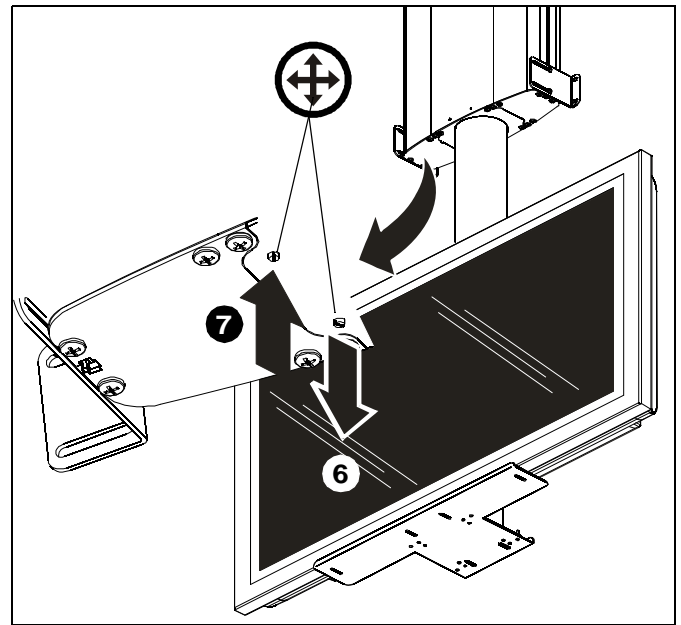
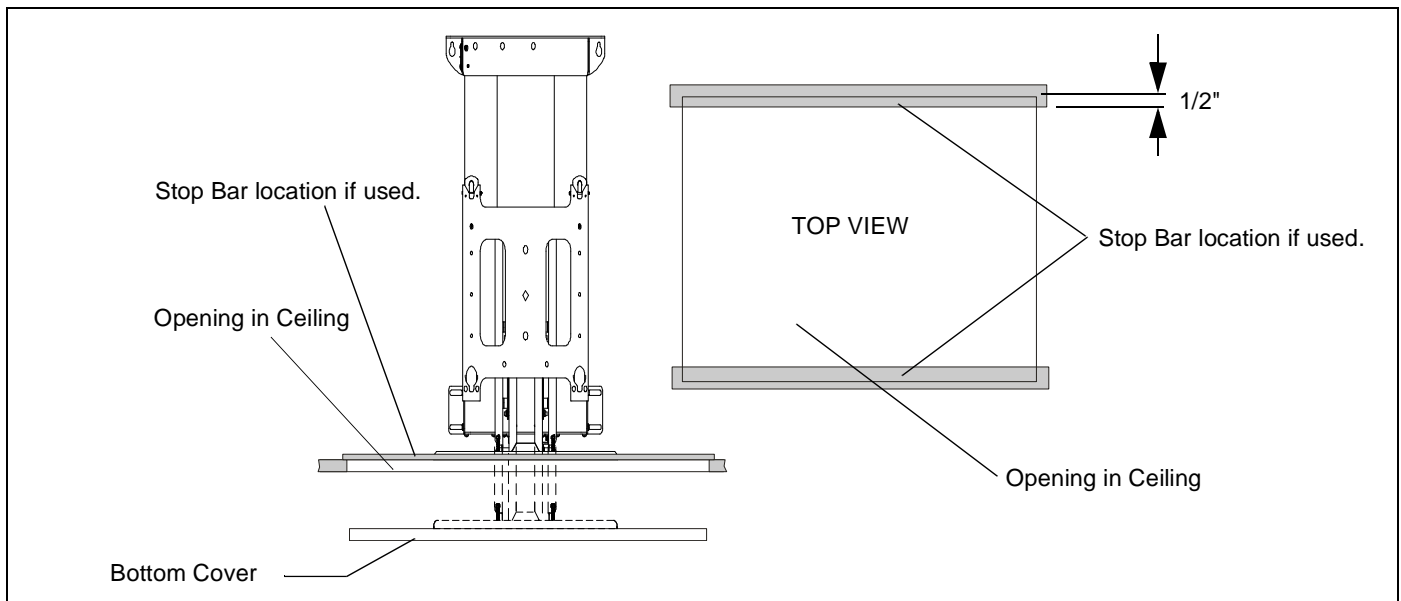

Figure 26
Figure 27
of travel must be considered when location the mount and a stop bar must be installed along the top edge of the opening in the ceiling. The stop bar must span the entire width of the front and back openings, and protrude outward into the opening a minimum of 1/2". See **Bottom Cover Location Adjustment** section and (See figure 27)
There is an upward travel limit adjustment screw and a downward travel limit adjustment screw located on the top right hand side of the mount. (See figure 27)
- Adjust travel until bottom cover is flush with ceiling. (See figure 26) and (See figure 27)